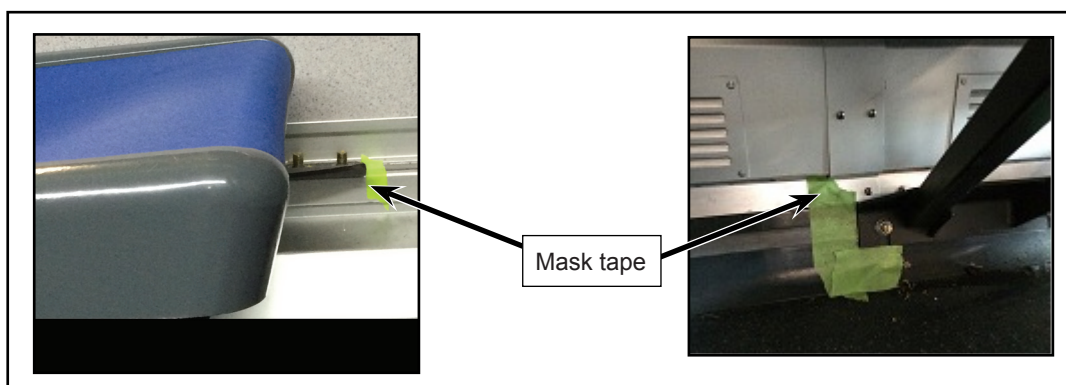

Figure 18 - Typical View of Seat Bracket Reassembling
- 2.10.1. Insert the upper and lower seat brackets onto the welded bolts. Confirm that the upper and lower brackets are lined up with the masking tape (see Figure 18).